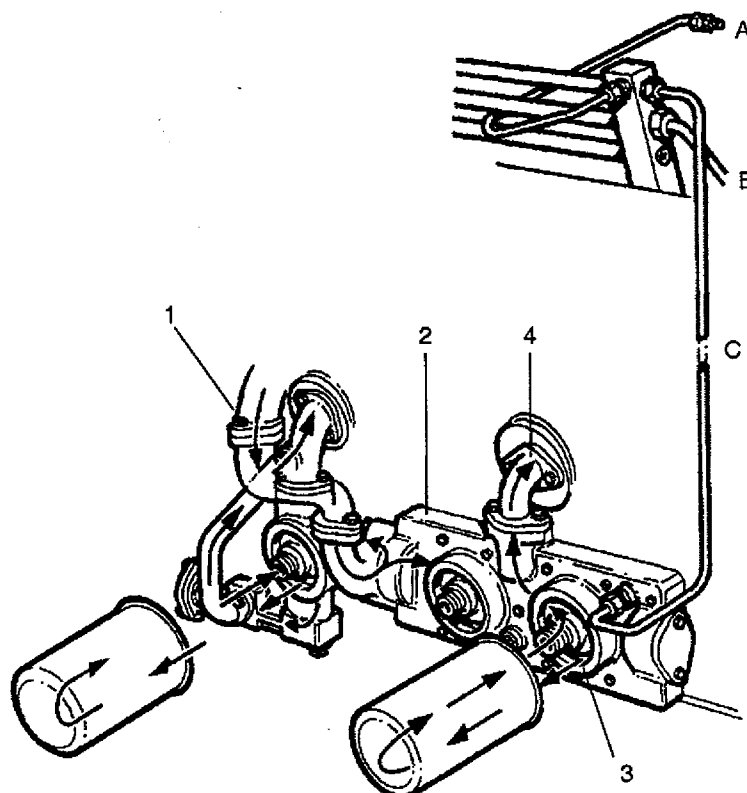

Fig. 1M
The oil enters the filter header after passing through the cooler at the inlet flange connection (1) into a common inlet gallery (2). From the inlet gallery the oil flows via outlet slots (3) and holes in the top of each canister, to the outside of each element, through the paper filter medium, into the centre of each unit, and out through the central connection to a common outlet gallery (4). From this outlet gallery of the main header the oil flows via the inlet connection (5) into the crankcase side gallery, and via a pipe (6) to the cylinder head valve gear. Also oil flows from the single filter header (7) to the piston cooling jet oil gallery (see Fig. 1M).
(Fig. 1M)